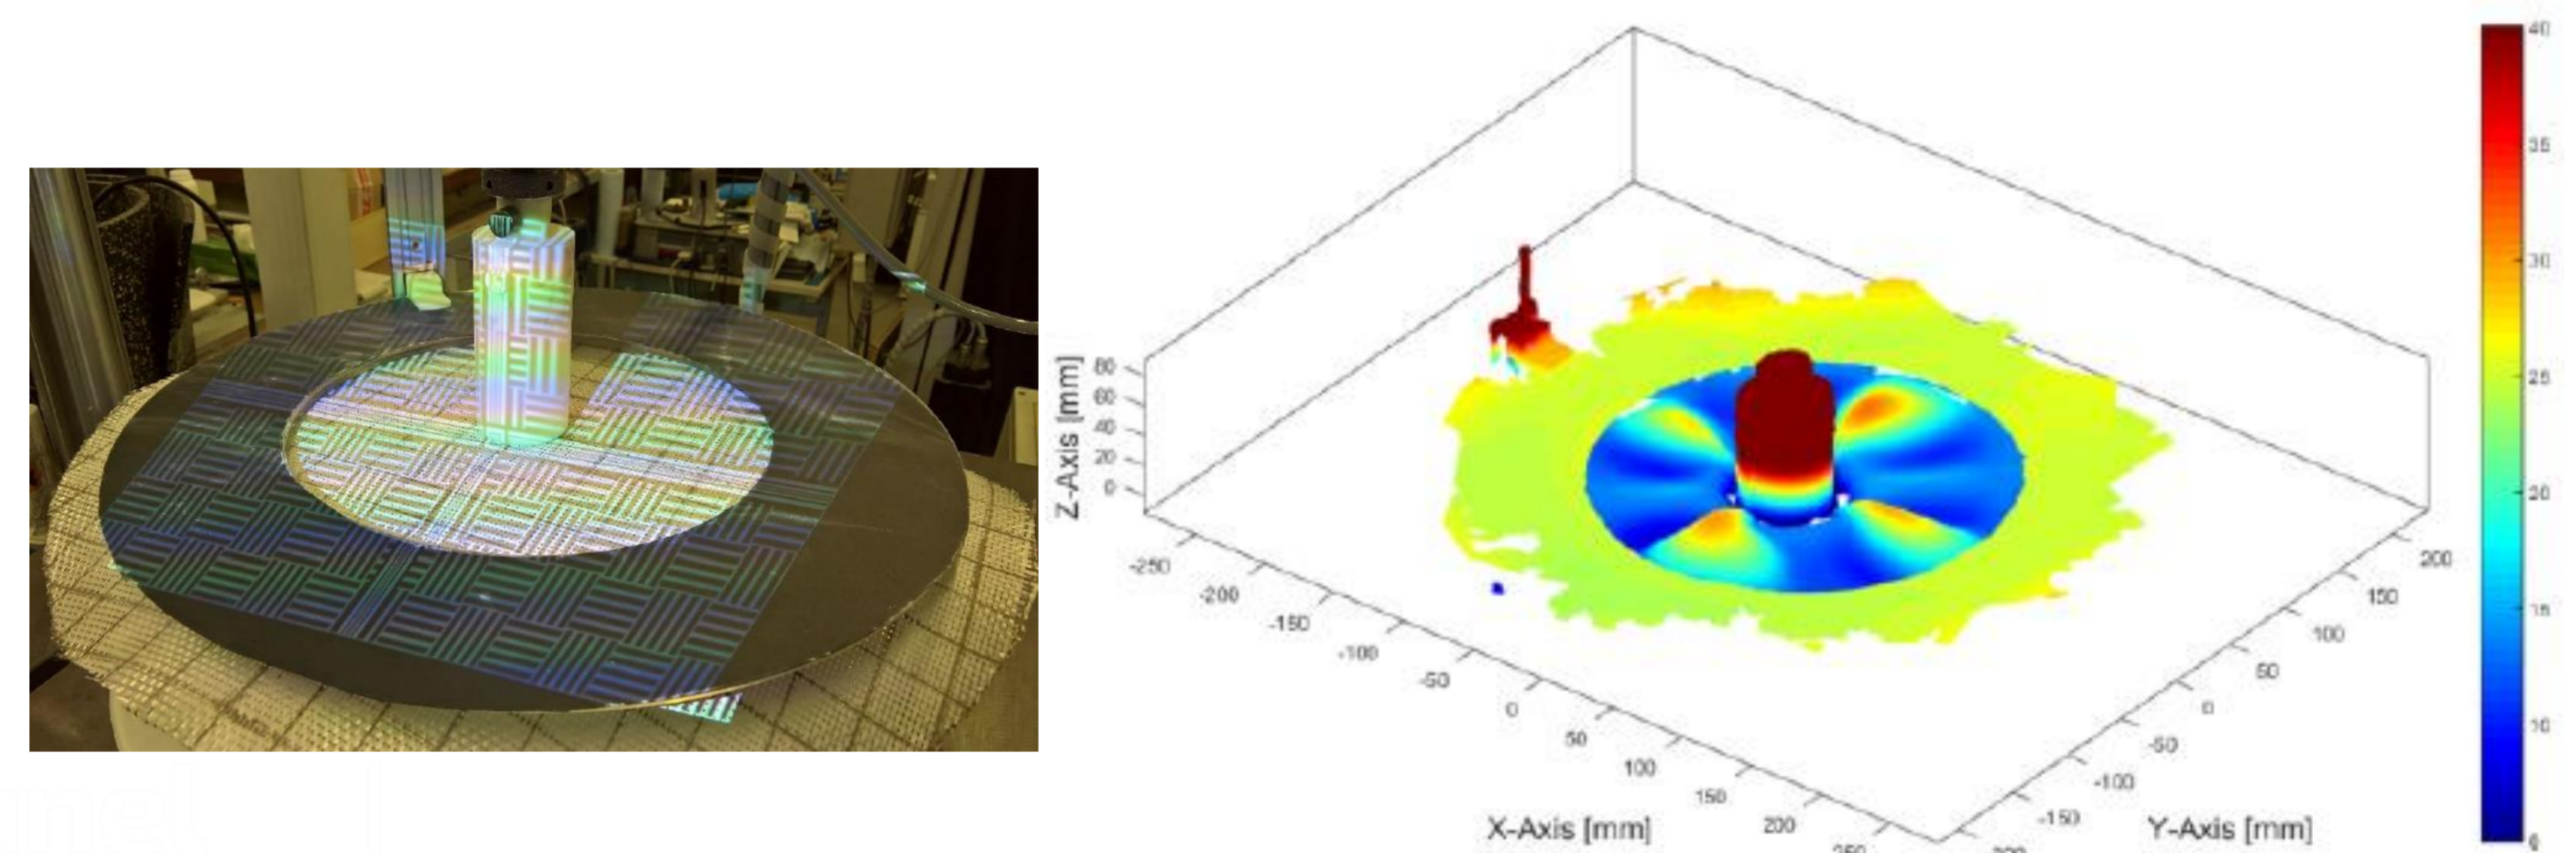

Figure 4. Structured light scanning used to digitise wrinkle geometry
- A room-temperature version of the deep-draw wrinkle-o-meter has been implemented and tested (see Figure 4)